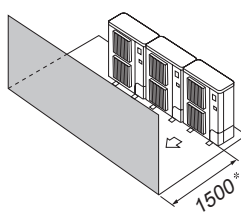

Fig. 3-14
- Obstacles at front only (Fig. 3-14)